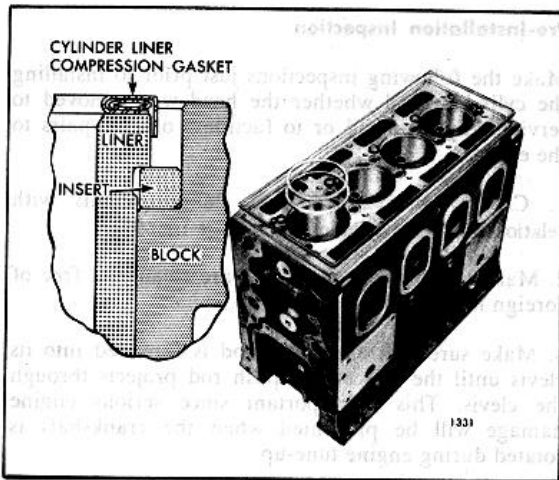

Fig. 11 Cylinder Head Seals and Gaskets
1. Refer to Fig. 11 and install the water and oil seal rings and compression gaskets as follows: